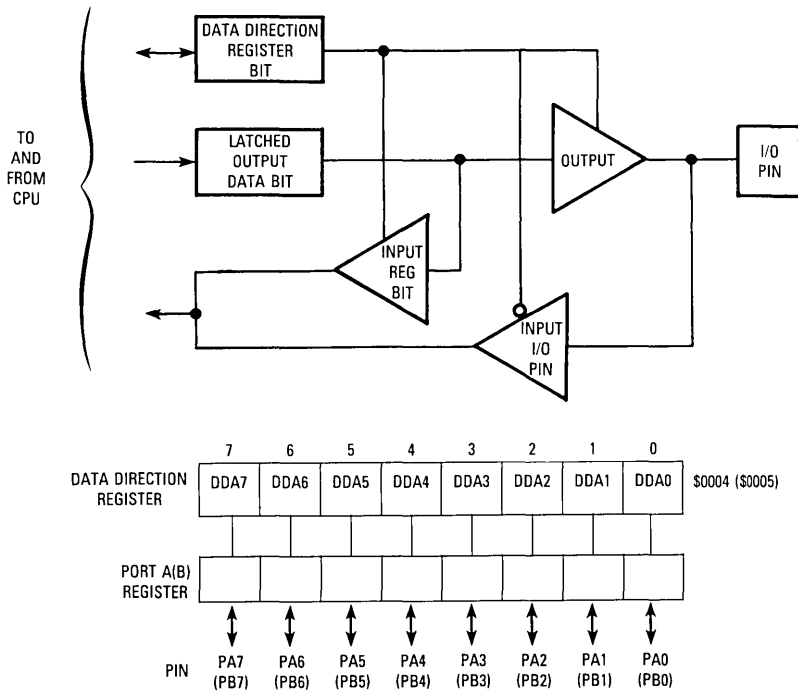

Figure 3. Typical Port I/O Circuitry and Register Configuration
When programmed as outputs, the latched output data is readable as input data regardless of the logic levels at the output pin due to output loading. The latched output data bit may always be written. Therefore, any write to a port writes all of its data bits, even though the port DDR is set to input. This port write may be used to initialize the data registers and avoid undefined outputs. Care must be exercised when using read-modify-write instructions since the data read corresponds: to the pin level if the DDR is an input (0) and, also, to the latched output when the DDR is an output (1). Refer to Table 1 for I/O functions and to Figure 3 for typical port circuitry.